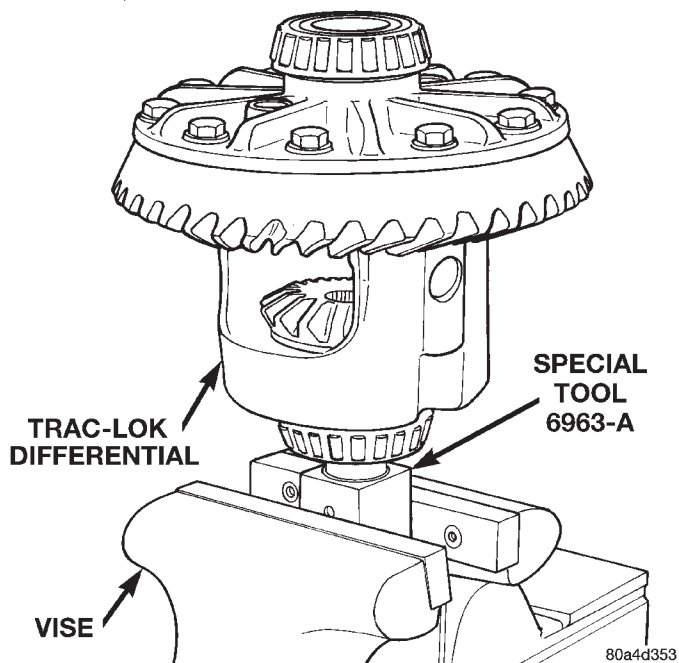

Fig. 45 Differential Case Holding Tool
- (1) Clamp Side Gear Holding Tool 6963-A in a vise.
- (2) Position the differential case on Side Gear Holding Tool 6963-A (Fig. 45).